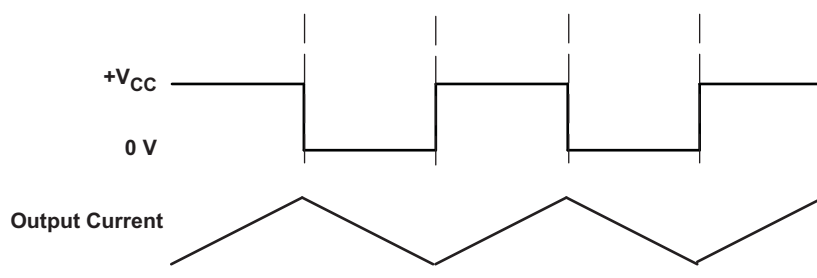
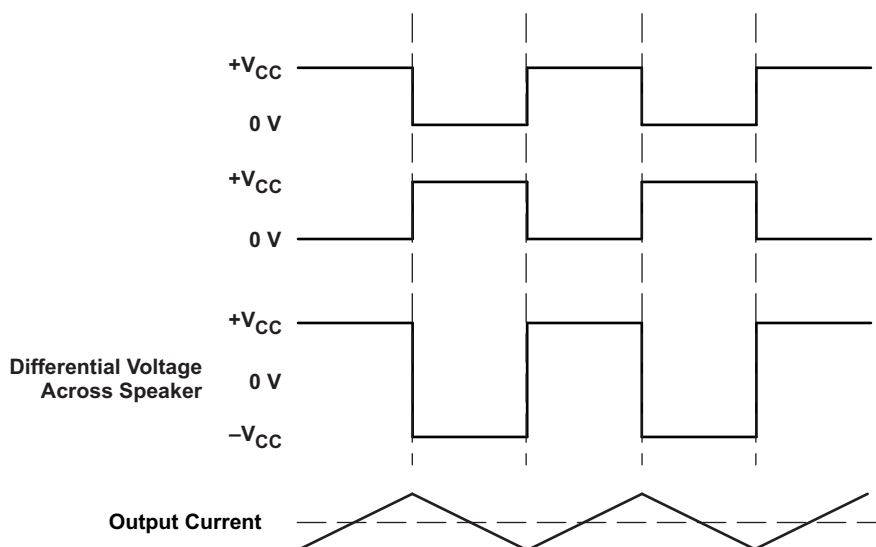

Figure 25. Class-D Modulation for TPA3121D2 SE Configuration
Figure 26. Class-D Modulation for TPA3121D2 BTL Configuration
The TPA3121D2 operates in AD mode. There are two main configurations that may be used. For stereo operation, the TPA3121D2 should be configured in a single-ended (SE) half-bridge amplifier. For mono applications, TPA3121D2 may be used as a bridge-tied-load (BTL) amplifier. The traditional class-D modulation scheme, which is used in the TPA3121D2 BTL configuration, has a differential output where each output is 180 degrees out of phase and changes from ground to the supply voltage, V_{CC} . Therefore, the differential prefiltered output varies between positive and negative V_{CC} , where filtered 50% duty cycle yields 0 V across the load. The class-D modulation scheme with voltage and current waveforms is shown in Figure 25 and Figure 26.